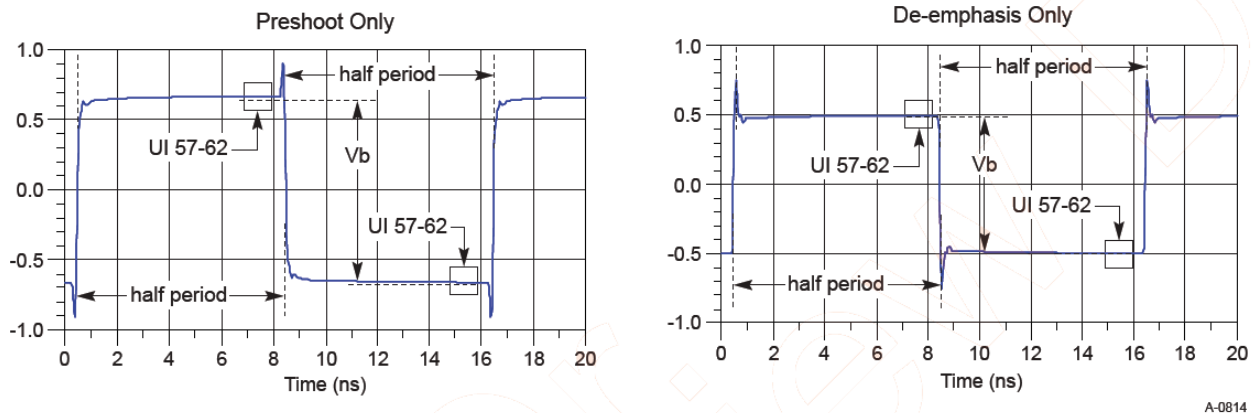

Figure 227 Waveform measurement points for preshoot and de-emphasis
8.0 GT/s, 16.0 GT/s and 32.0 GT/s PCIe signaling must support the full range of presets given in Table 8-1 (PCIe Base Specification Revision 5.0). Presets are defined in terms of ratios, relating the pre-cursor and post-cursor equalization voltages. The pre-cursor (V_c) is referred to as pre-shoot, while the post-cursor (V_b) is referred to as de-emphasis. This convention permits the specification to retain the existing 2.5 GT/s and 5.0 GT/s definitions for Tx equalization, where only de-emphasis is defined, and it allows preshoot and de-emphasis to be defined such that each is independent of the other. The tolerances in Table 8-1 (PCIe Base Specification Revision 5) also apply to 2.5 and 5.0 GT/s de-emphasis. The maximum swing, V_d , is also shown to illustrate that, when both c_{+1} and c_{-1} are nonzero, the swing of V_a does not reach the maximum as defined by V_d . The high frequency nature of PCIe signaling makes measurement of single UI pulse heights impractical. Consequently all amplitude measurements are made with low frequency waveforms as shown in Figure 227.